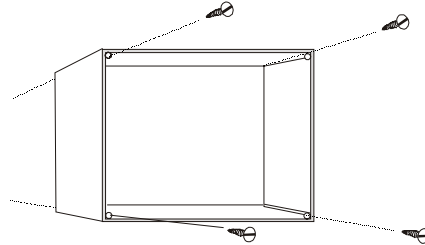

Figure 19 Mounting screw channels for the ATU
Step 2: Mount the ATU with the connectors pointing down. There are screw channels at each corner of the ATU for mounting purposes (Figure 19).